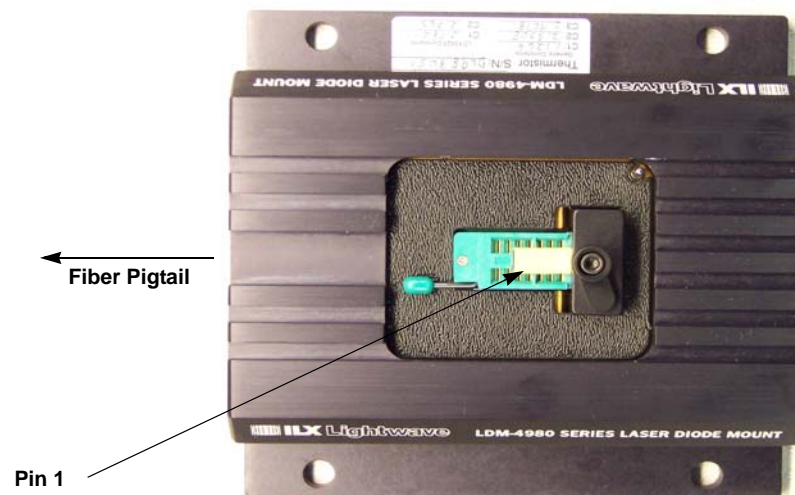

Figure 2.4 LDM-4982M Pin 1 Location
- 2 While pressing on the laser diode, carefully slide the laser down into the socket with the pins of the laser aligned with the first eight (two rows of four) pins closest to the clamp, see Figure 2.4. The fiber pigtail should be opposite to the spring loaded clamp.